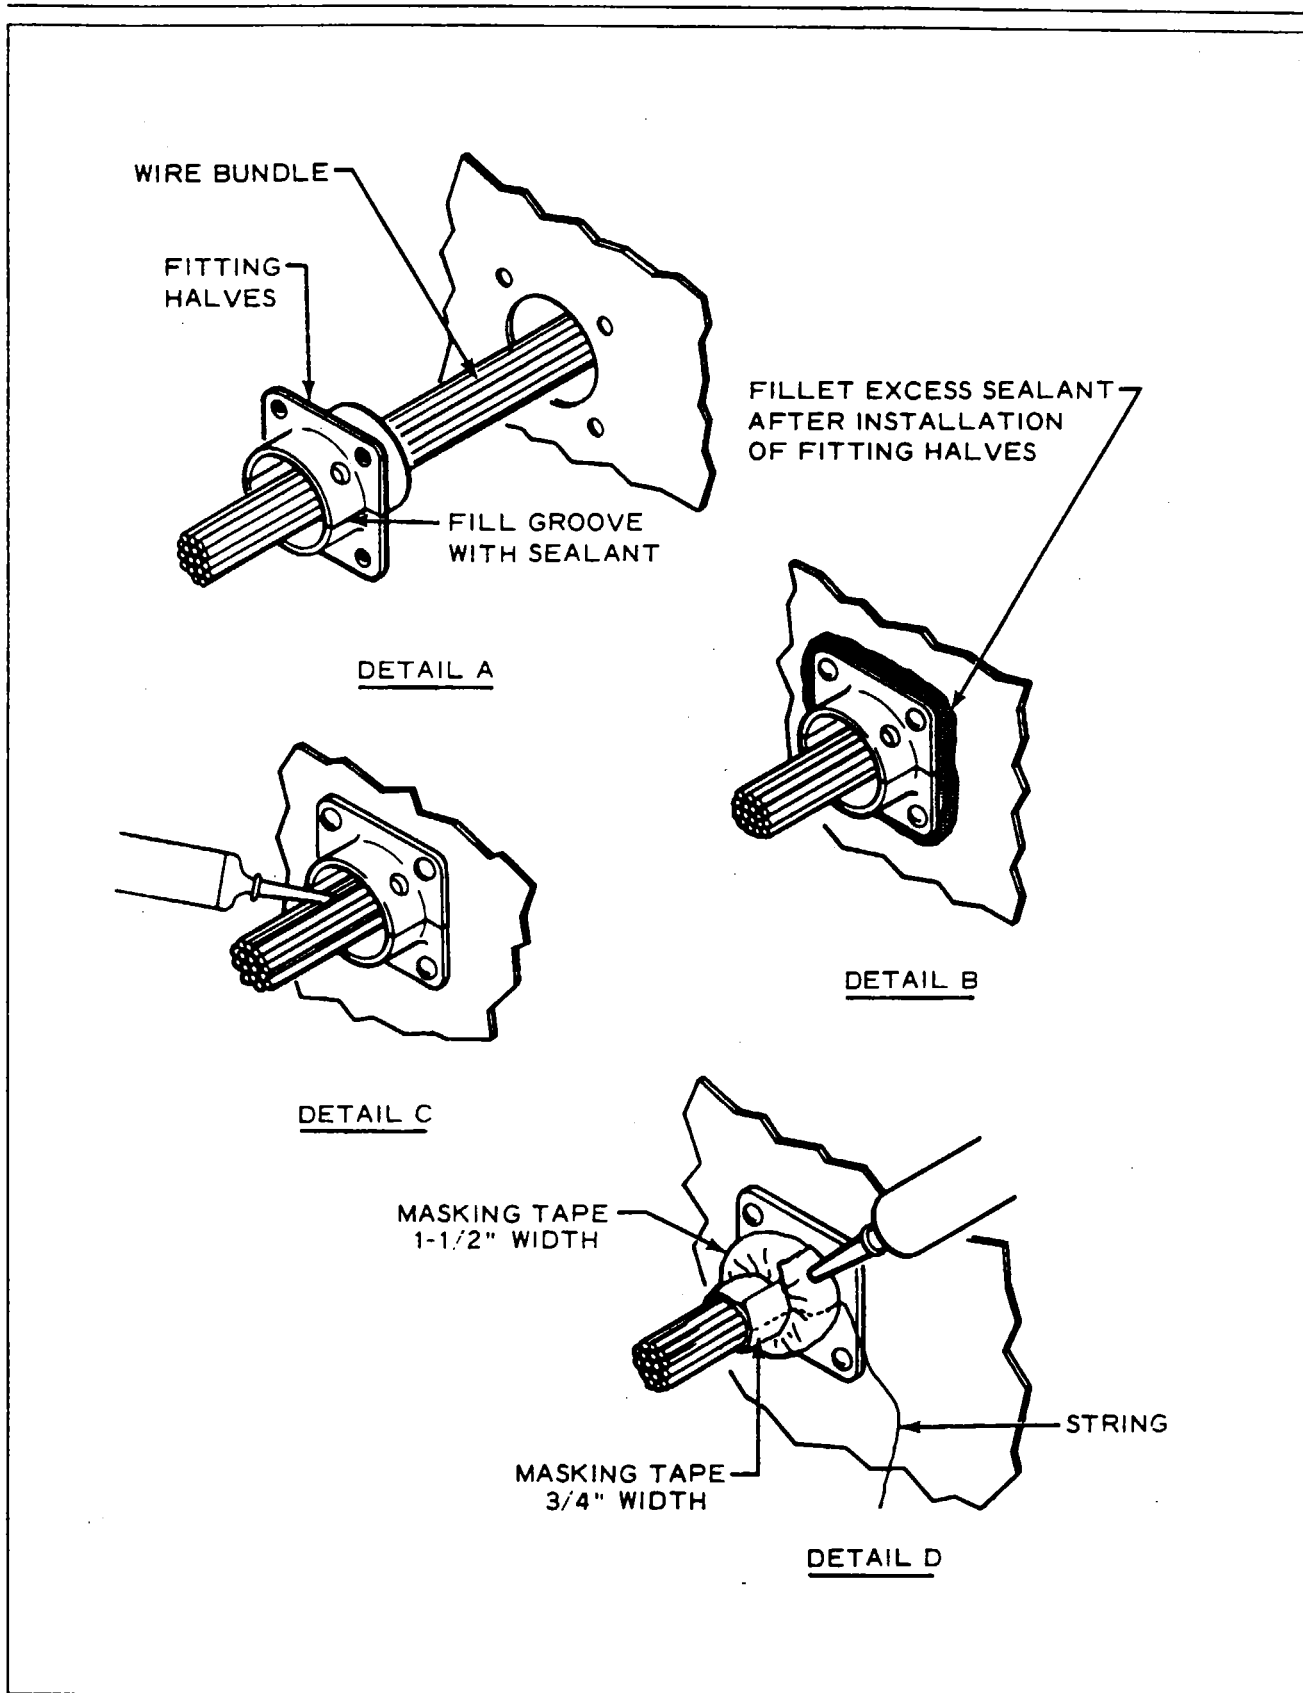

Figure 4-22. Wire Harness Seals
4-99. SEALING ELECTRICAL HARNESS. (Refer to Figure 4-22.) These steps are for the main fuselage and wing harness only. The wire harnesses are sealed at the point where they pass through the pressure bulkhead.
- d. Fill the groove in the mounting flange of the fitting halves with sealant. (Refer to detail "A" of Figure 4-22.)
- f. Fillet seal the extruded sealant around the sides of the mounting flange as shown in detail "B" of Figure 4-22.
- g. Put the nozzle of the sealant gun in the center of the wire harness and work sealant throughout the wires inside the seal fitting as shown in detail "C" of Figure 4-22.
- h. Place a strong piece of string against the seal assembly, parallel with the wires. (Refer to detail "D" of Figure 4-22.)
- i. Wrap the fitting halves with three turns of 1.50 inch wide masking tape. (Refer to detail "D" of Figure 4-22.)
- k. Wrap the crimped end with three turns of .750 inch masking tape. (Refer to detail "D" of Figure 4-22.)